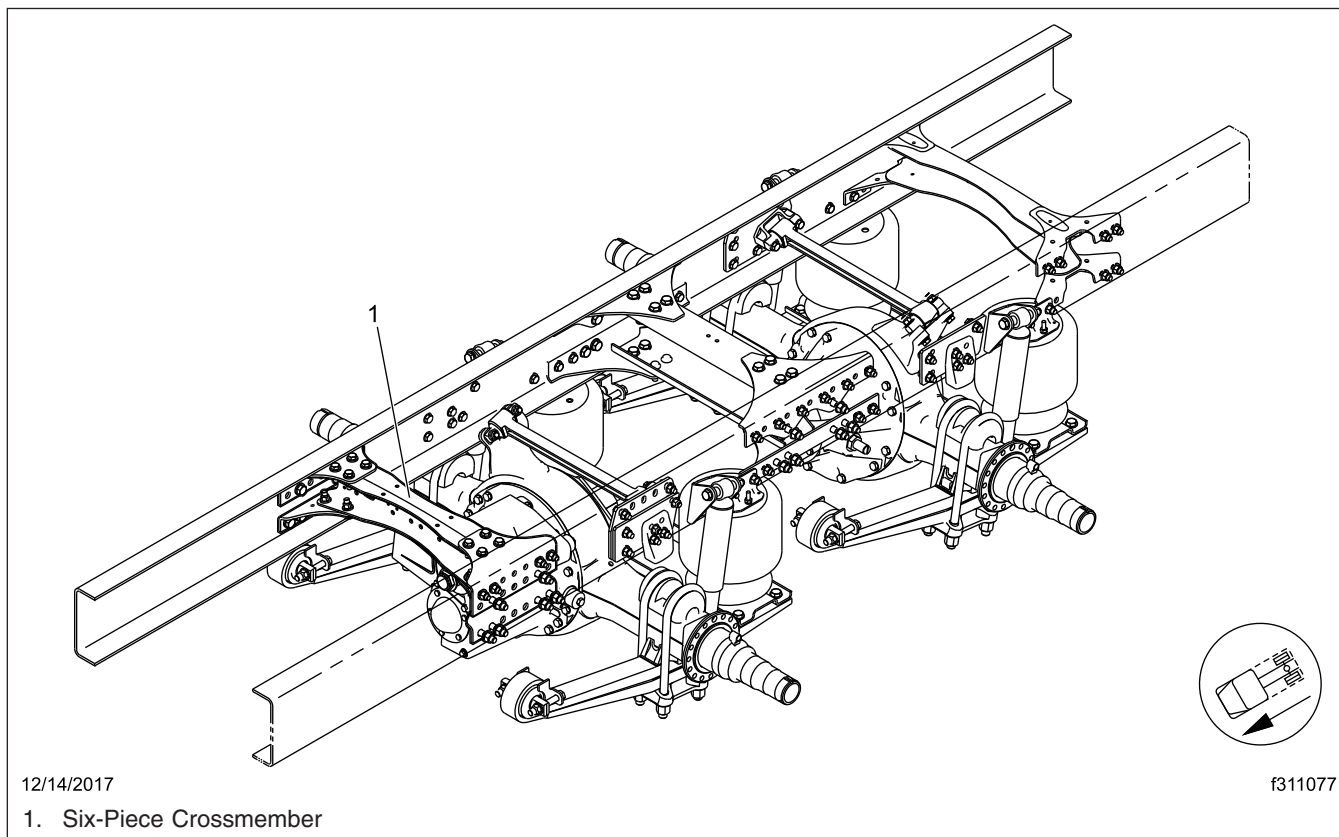

Fig. 2, Tandem Axle Installation
- AirLiner Tandem Axle Suspension Six-Piece Forward Crossmember, shown in Fig. 2.